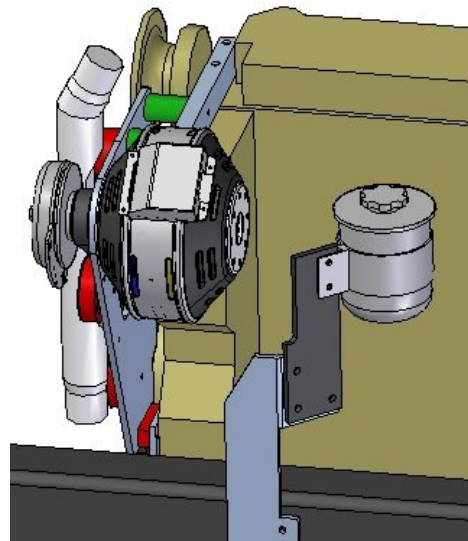

Figure 3
15. Assemble the lower mounting plate to the main bracket using the two-hole spacer plate and the supplied bolts, leaving the bolts slightly loose. The two-hole spacer can be seen between the bracket sections in **Figure 3**.
33. Remount the reservoir using the supplied bracket and fasteners according to **Figure 3**.